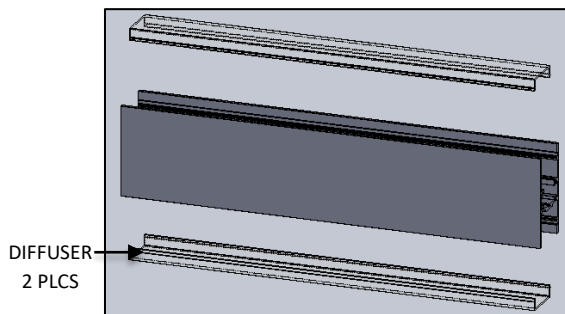

FIG. 14 – DIFFUSER INSTALLATION
10. Reattach DIFFUSERS/LOUVERS and END CAPS to the FIXTURE body as shown in FIG.14 and 15.